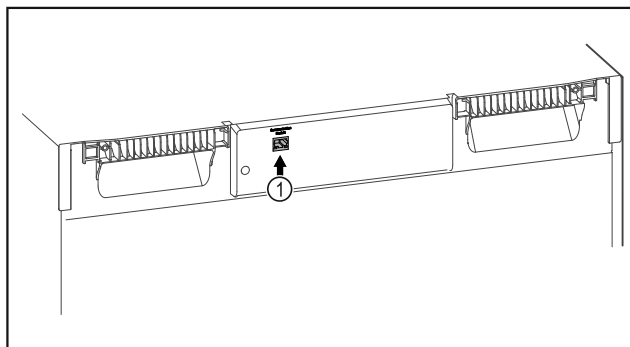

Fig. 83
- ☐ SmartModule Fig. 83 (1) is in use.